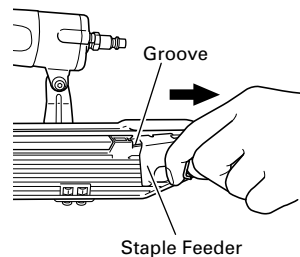

Fig. 2
- (1) Pull the staple feeder backward and attach it securely to a groove of the magazine. (See Fig. 2)